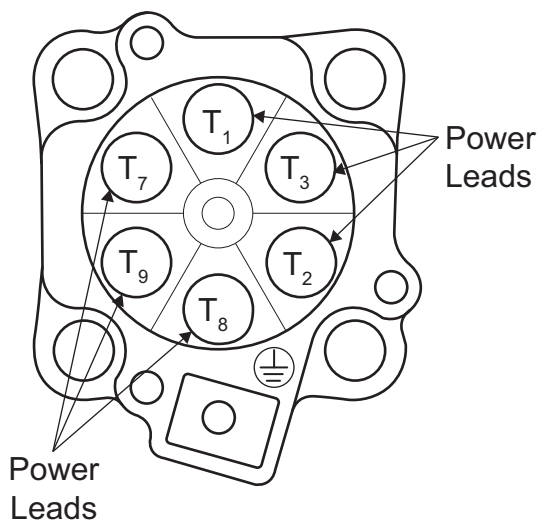
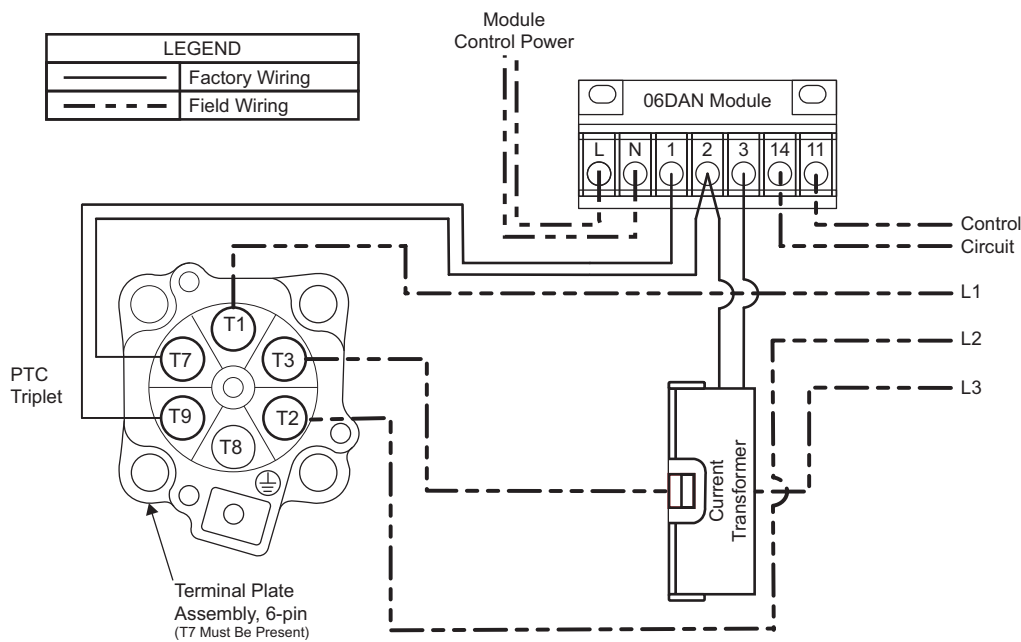

Fig. 6 — 6-Pin Part Wind Terminal Plate Arrangement
Fig. 8 — Hybrid Overload Wiring
6 Pin (Fig. 6) 0 ^a , 1, 2 or 3 in Digit 10	Yes (Fig. 8)
a. Compressors with "0" in Digit 10 of the model may be connected to either the electronic overload system (See Fig. 8) or the Legacy Bi-Metal overload systems (See Pocket Service Guide link).
4. Once power lead (L3) is routed through the CT, make terminal plate connections as shown in Fig. 8. Refer to "Terminal Plate Wiring" on page 6 for connection details.